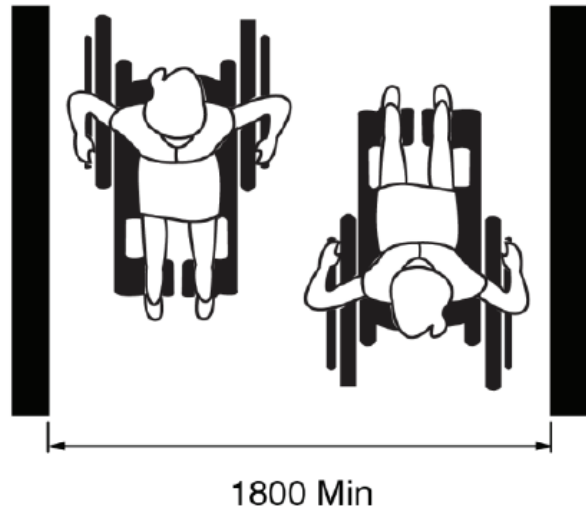

Figure 54: Primary Accessible Path
- **Primary accessible path:** 1830 mm (Figure 54)